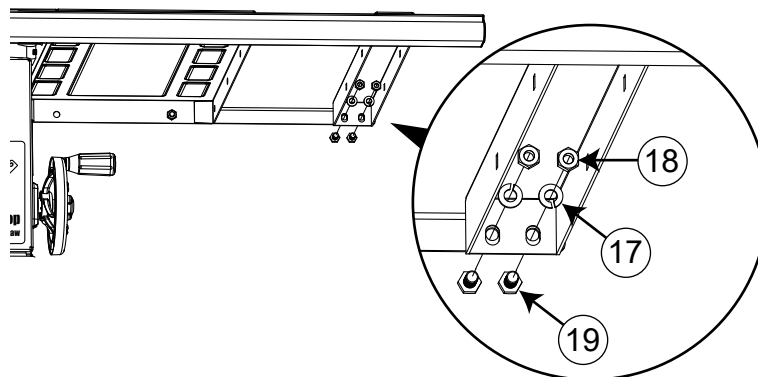

Fig. 9
9. Position the material support shelf between the front rail and the right rear rail by sliding the heads of the two square head screws into the slot on the right end of the front rail until the holes in the rear of the material support shelf line up with the holes in the rear rail. Use two M8 x 16 hex screws, two M8 lock washers, and two M8 hex nuts to mount the material support shelf to the rear rail (see Fig. 9). Use a straight-edge to level the top of the material support shelf with the cast iron table top. Use two 13 mm wrenches to fully tighten the hardware that mounts the material support shelf to the right rear rail. Do not tighten the hardware that mounts the material support shelf to the front rail.